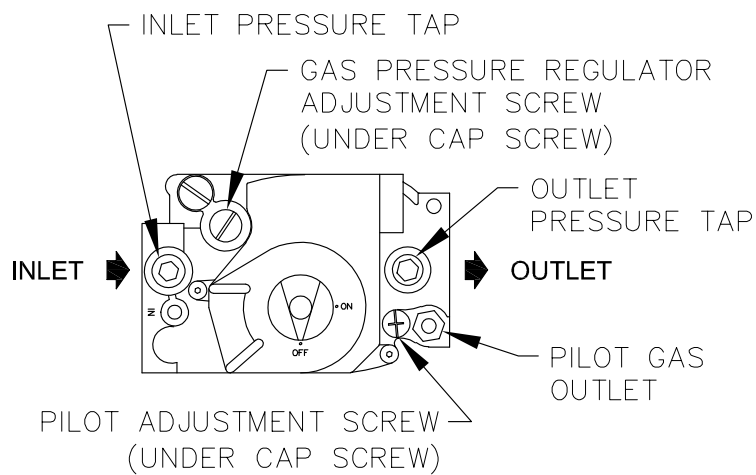

Figure 7.2: Valve Tapping and Adjustment Screw Locations
9. Connect a manometer to the 1/8" NPT inlet pressure tap on the gas valve. See Figure 7.2.
2. To adjust gas pressure, turn adjusting screw of gas pressure regulator counterclockwise to decrease pressure, clockwise to increase pressure. Refer to Figure 7.2 for location of gas pressure regulator. Replace the cap screw when adjustment is complete.